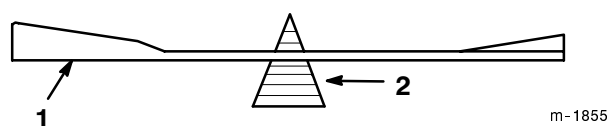
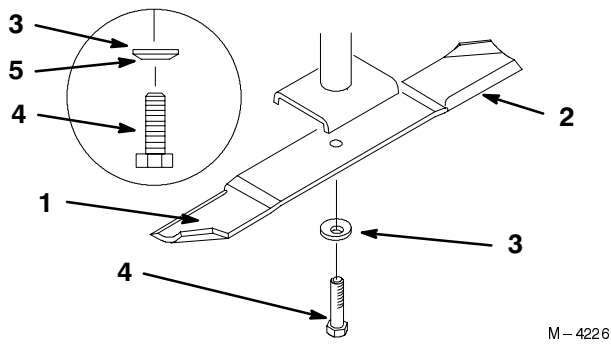

Figure 22
Figure 23
1. Hold the blade end using a rag or thickly-padded glove. Remove the blade bolt, spring disk and blade from the spindle shaft (Fig. 23).
2. Check the balance of the blade by putting it on a blade balancer (Fig. 22). If the blade stays in a horizontal position, the blade is balanced and can be used. If the blade is not balanced, file some metal off the end of the sail area only (Fig. 23). Repeat this procedure until the blade is balanced.
1. Install the blade onto the spindle shaft (Fig. 23).
2. Install the spring disk and blade bolt (Fig. 23). Torque the blade bolt to 85-110 ft-lb (115-150 N•m).